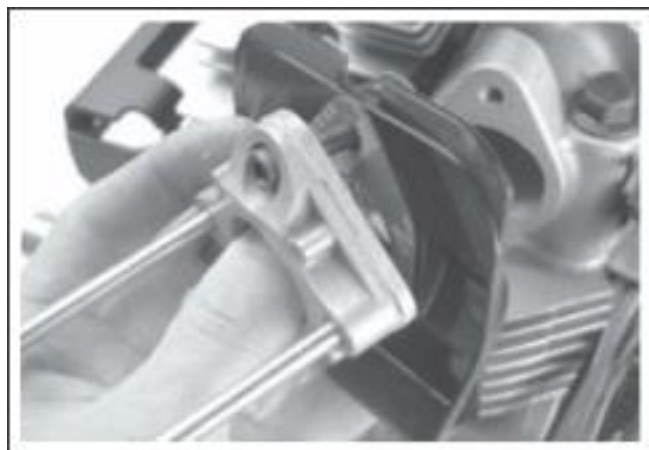

Figure 9-27. Removing Carburetor Adapter and Heat Deflector.
1. Remove the two socket head cap screw securing carburetor adapter, gaskets and heat deflector to the cylinder head. See Figure 9-27.
2. Remove the carburetor adapter, heat shield, and gaskets from the engine. See Figure 9-27.